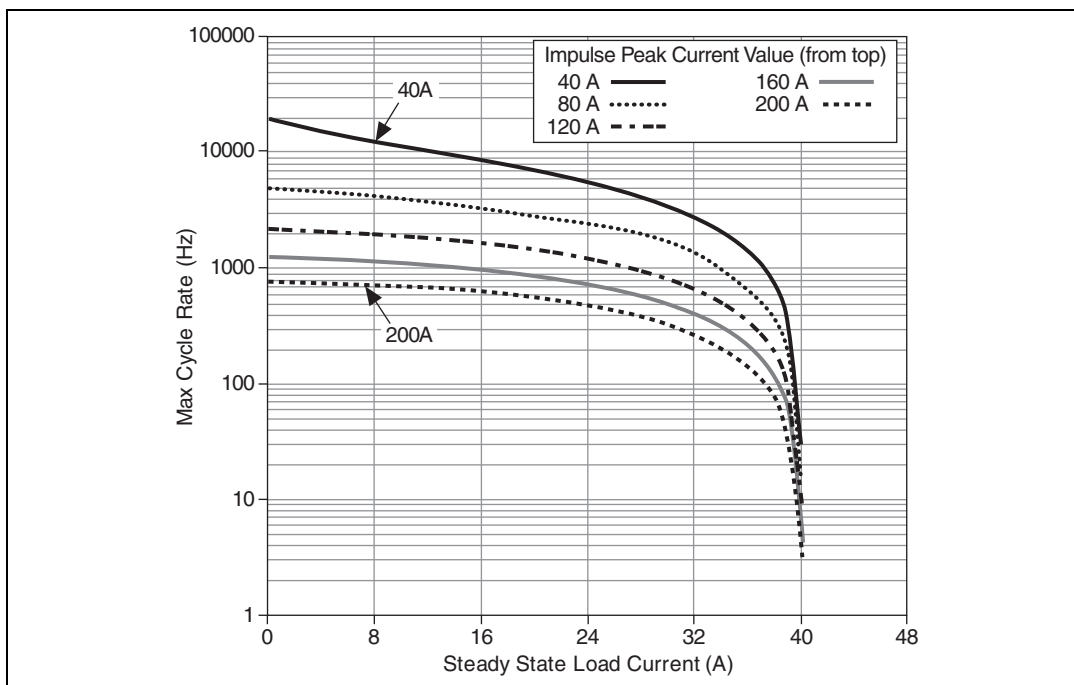
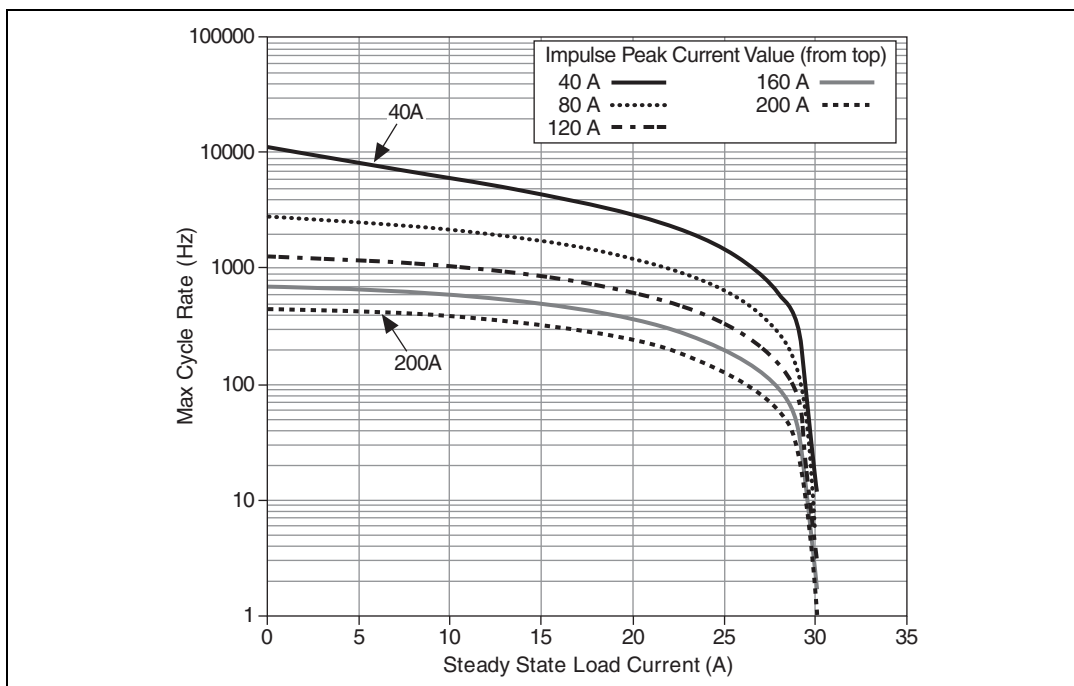
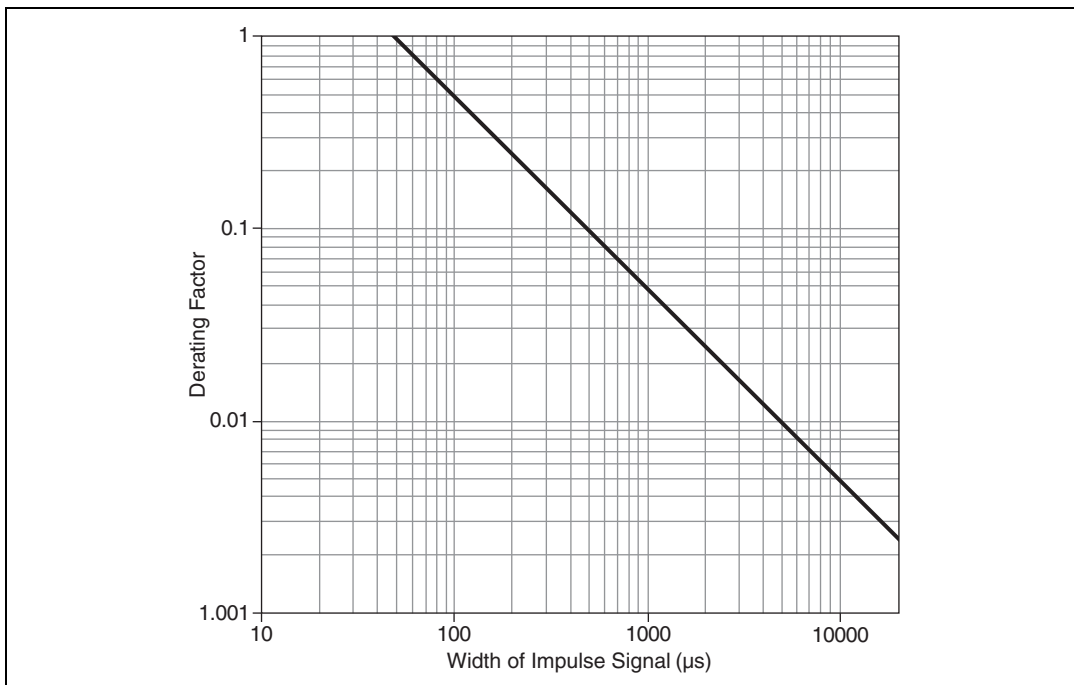

Figure 2. Maximum Cycle Rate for Single Path Closed
Figure 3. Maximum Cycle Rate for Multiple Paths Closed
Figure 4. Maximum Cycle Rate Derating Factor by Pulse Width
Note Overtemperature conditions are created when excessive power is dissipated in the channel paths such as when switching large impulses created by switching into capacitive or inductive loads or when switching a signal at a higher rate than the module dissipates the generated heat. Refer to Figures 2, 3, and 4 for information about the maximum cycle rate.
Complete the following steps and use Figures 2, 3 and 4 to determine the maximum cycle rate at which a channel can be switched when the peak impulse current value and duration are known.
- Using Figure 2 for when a single channel path is closed, or Figure 3 for when multiple channel paths are closed simultaneously, choose the graph line that meets or exceeds the peak inrush current value of the signal being switched. Find the point on the trace that equates to the steady state current being switched by the load.
- Using Figure 4, find the point on the graph that corresponds to the measured pulse width of the inrush current pulse. Find the corresponding derating factor. Then calculate the maximum cycle rate using the following equation:
For switching a steady state current of 16 A on a single channel into a load with peak inrush current of 180 A that lasts for 400 μs, choose the 200 A graph line in Figure 2. Find the y-axis value that corresponds to the 16 A load current (650 Hz.) Then find the derating factor in Figure 4 that corresponds to 400 μs (0.1).
For switching a steady state current of 15 A into a load with peak inrush current of 180 A that lasts for 400 μs while another channel is also carrying 25 A, choose the 200 A graph line in Figure 3. Find the y-axis value that corresponds to the 15 A load current (300 Hz.) Then find the derating factor in Figure 4 that corresponds to 400 μs (0.1).